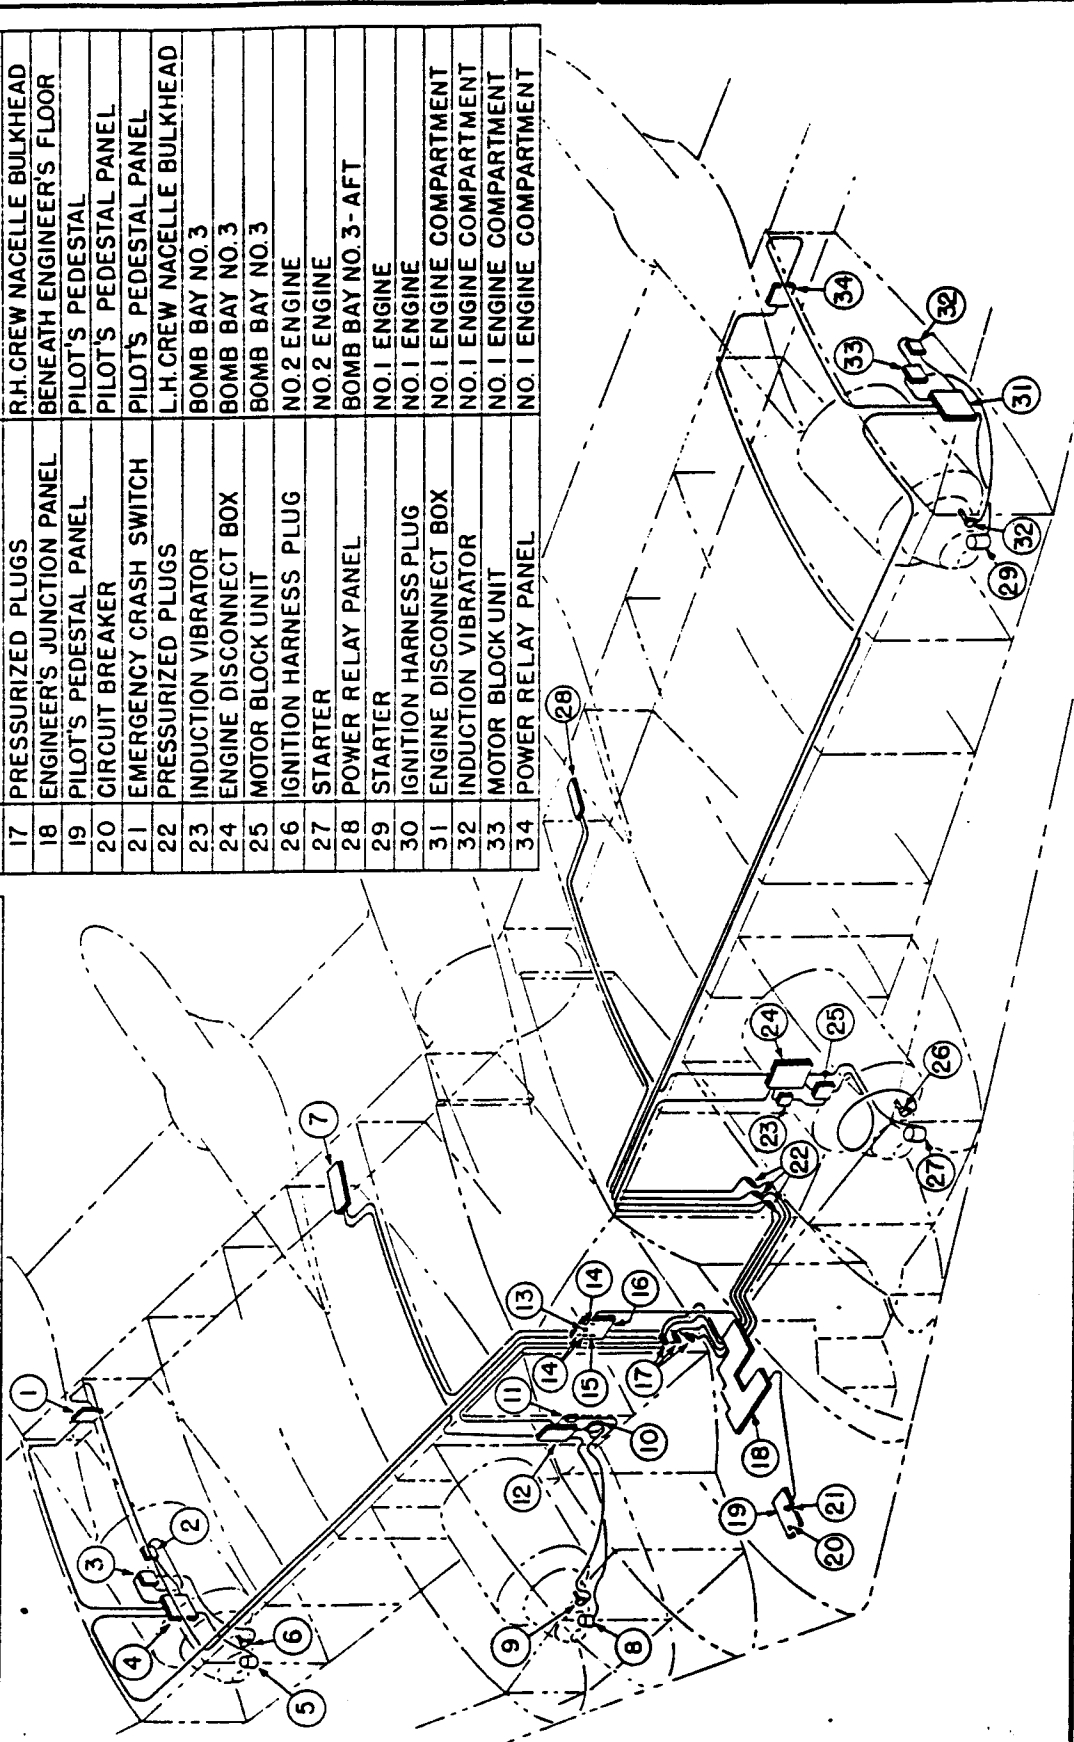

Figure 1. Starter and Ignition - Electrical
9. IGNITION SYSTEM. (See figure 1.)